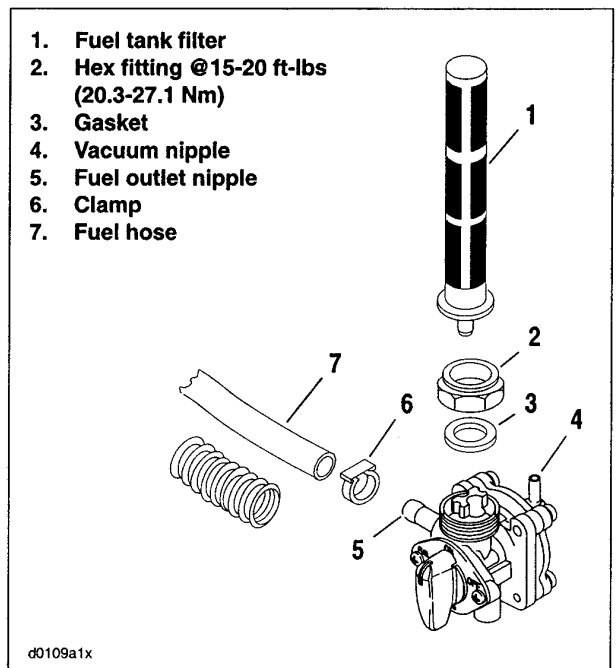

Figure 1-61. Fuel Supply Valve Assembly
- See Figure 1-61. Remove the fuel hose (7) from the outlet nipple (5). Remove the vacuum hose from the vacuum nipple (4).
- See Figure 1-61. After draining tank, turn the hex fitting (2) that attaches the valve to the fuel tank counterclockwise and remove the valve, gasket (3), and filter (1).